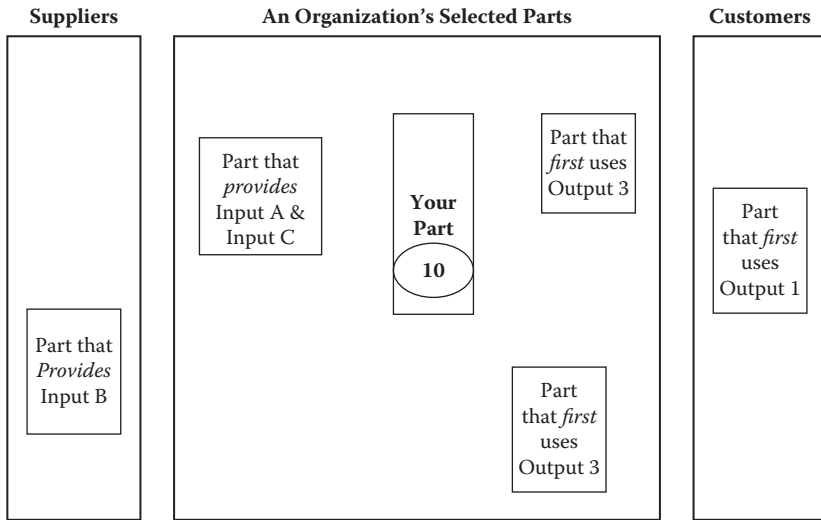

Figure 4.29 Relationship map (partial) for "Your Part" of the organization with *immediate* supplier and customer parts.
10. Draw each part from the S-C template in the corresponding portion of the relationship map template (Figure 4.29).